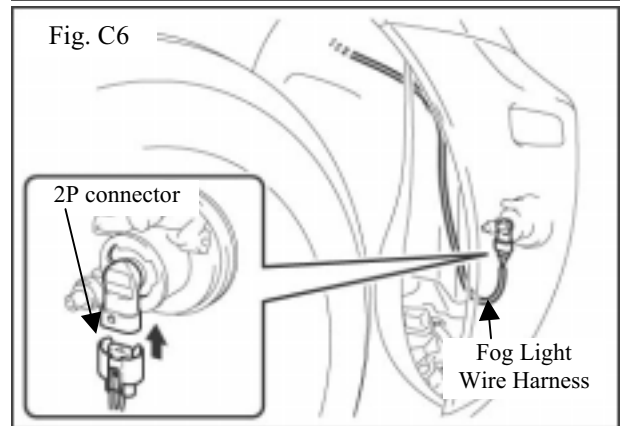

Fig. C6
- 10. Connect the 2P connector (fog light wire harness) to fog light assembly RH. (Fig. C6)